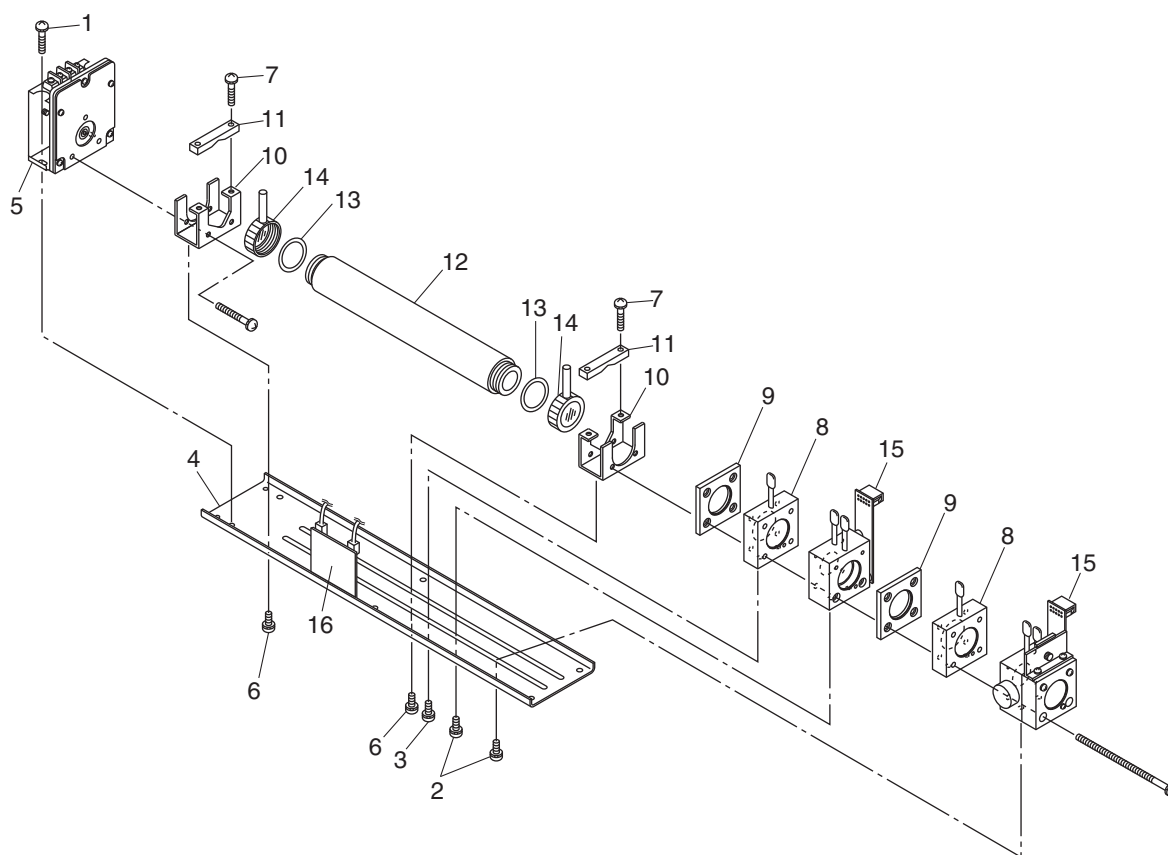

Fig. 7-1 Configuration of measuring unit (pipe cell)
a. How to remove pipe cell (See Fig. 7-1)